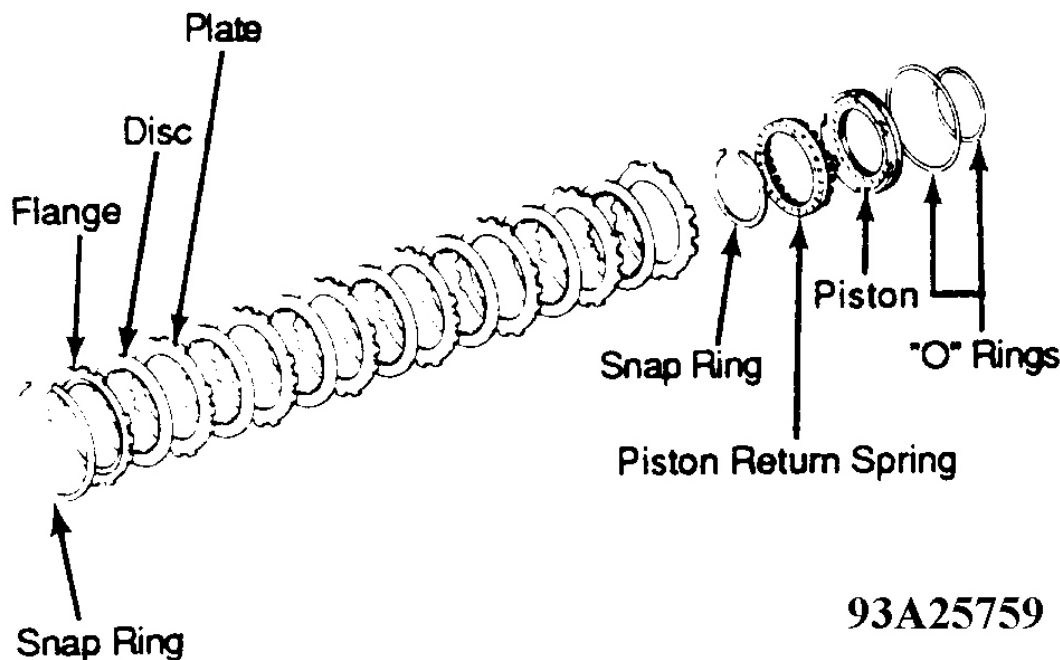

Fig. 28: Exploded View Of 1st & Reverse Brake Piston (A-540E Shown; A-241H Similar)
1. Remove snap ring from 1st and reverse brake. Remove flange, discs and plates. Note location of components. See **Fig. 28**.
3. Push snap ring in place with fingers. Ensure snap ring is fully seated and centered on 3 lugs of spring retainer. Ensure end gap of ring is not aligned with spring retainer claw. Remove compressor tool. Install discs, plates and flange. See **Fig. 28** .